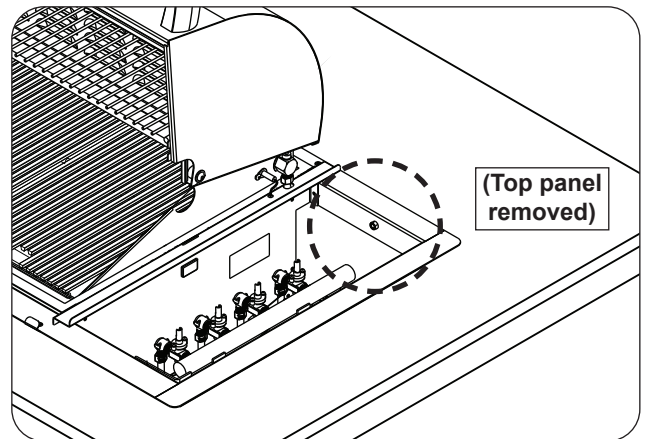

Fig. 27-2 Secure grill frame
2. Screw the 1 1/4" stabilizer screw (packed in the instructions bag) through the nut mounted on the right rear corner of the frame assembly (see Fig. 27-2). This will secure your grill in place.